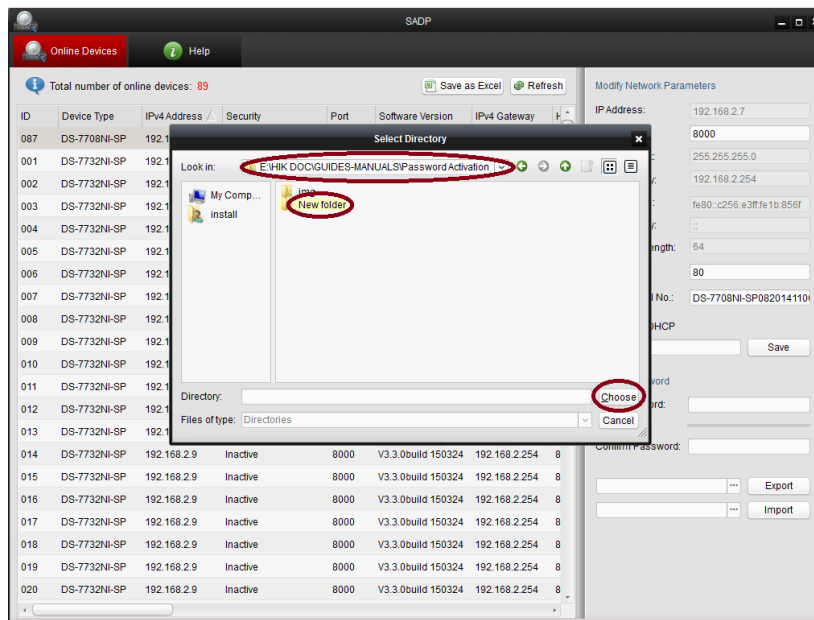

Figure 117 Select directory path and click [Choose]
3. Select the directory path to the folder you've created and click **[Choose]** (Figure 117).